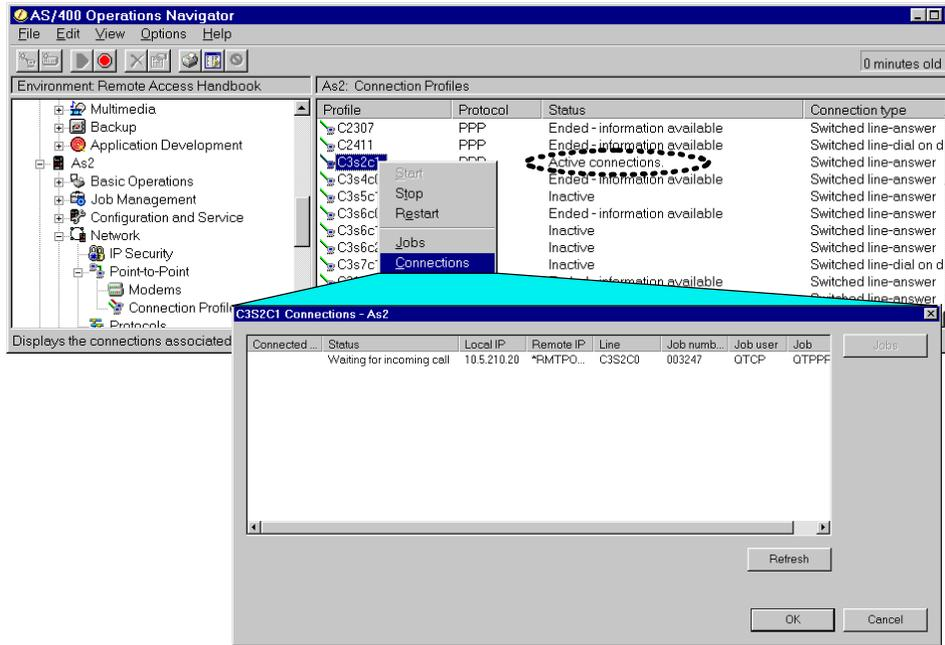

Figure 143. Waiting for incoming status of the target system
1. Click the Operations Navigator PPP **Connection Profile** on the target or remote system (Figure 143).